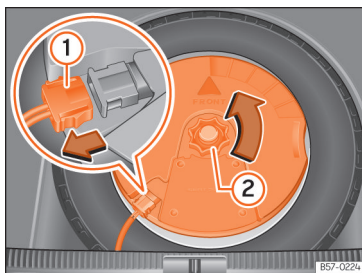

Fig. 311 In the boot: remove the subwoofer.
- Disconnect the *subwoofer* »» **Fig. 311 ①** speaker cable.
- Turn the securing wheel in an anti-clockwise direction »» **Fig. 311 ②**.